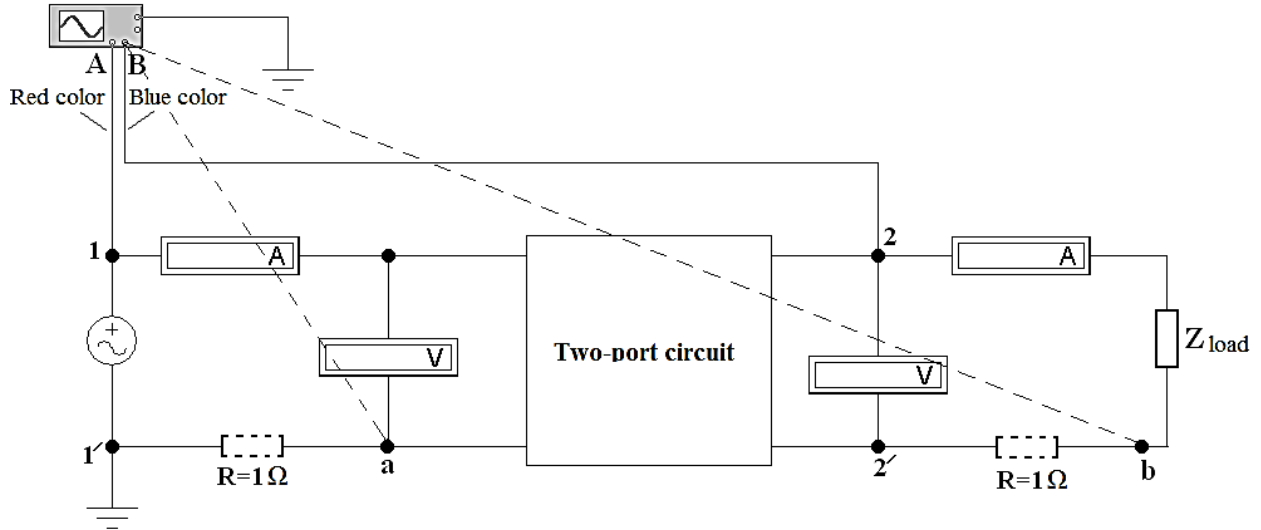

Figure 4.9
4.2.1 Assemble the electric circuit using the scheme shown in figure 4.9 with specified parameters of two-port circuit according to assignment variant.